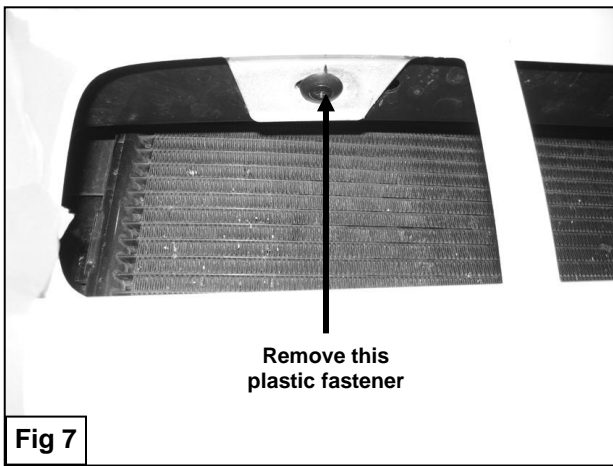

Fig 7
11. On each of the outer bumper intake there is one plastic fastener on the upper section. Use a flat screw driver to remove these plastic fasteners (**Figure 7**).